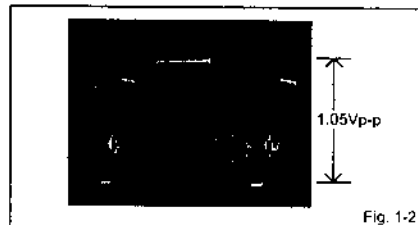

Fig. 1-2
3. Check if the VIDEO OUTPUT LEVEL is  $1.05 \pm 0.15V_{p-p}$ . (Refer to Fig. 1-2)